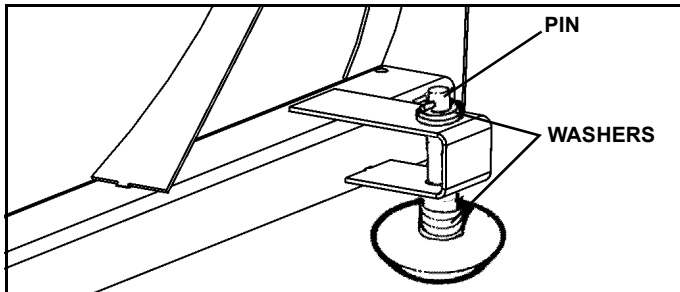

Figure 2-5
4. Adjust shoe assemblies by removing shoe mounting lynch pin and adding or subtracting washers on the top or bottom of the shoe-mounting bracket. (See Figure 2-5).